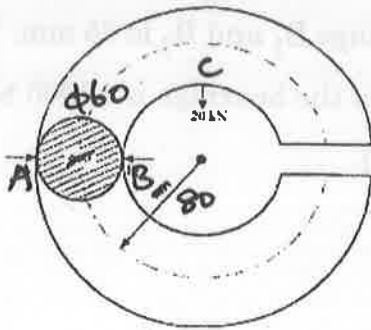

Fig. 16 (a)
16. a) Determine the stress at point A and B split ring shown in fig. 16 (a). if a compressive force = 20 kN is applied point 'C'. (15)